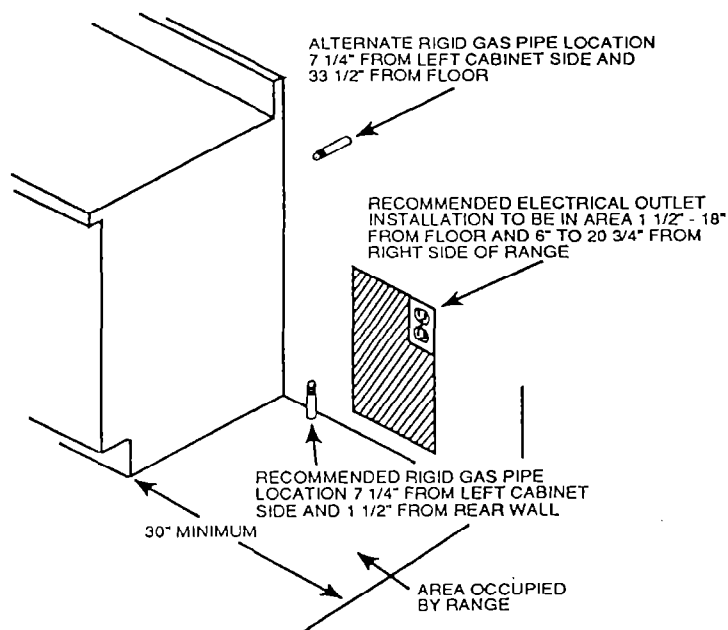

Fig. 1
- Recommended location for the gas inlet pipe and electrical outlet are shown in Figure 1.
- Refer to Figures 1, 2 and 3 for all rough-in and minimum clearance dimensions.